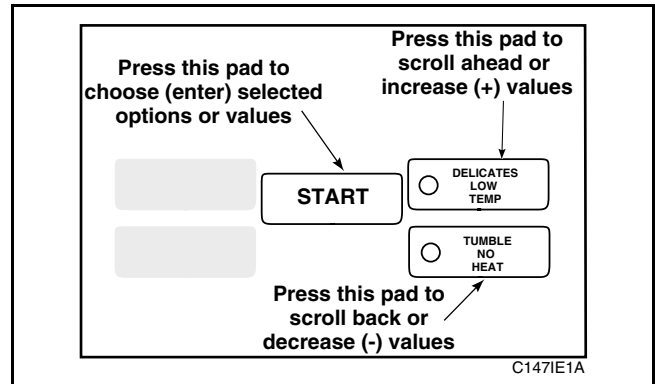

Figure 72
- Press the LOW TEMP (+) pad or the NO HEAT (-) pad to increase or decrease the current three-digit number to the desired three-digit number selected from Chart 7, *Figure 72*.